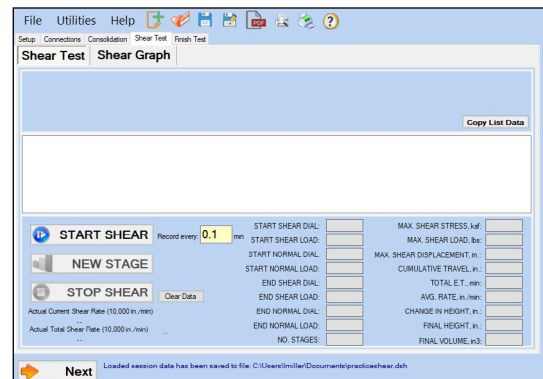
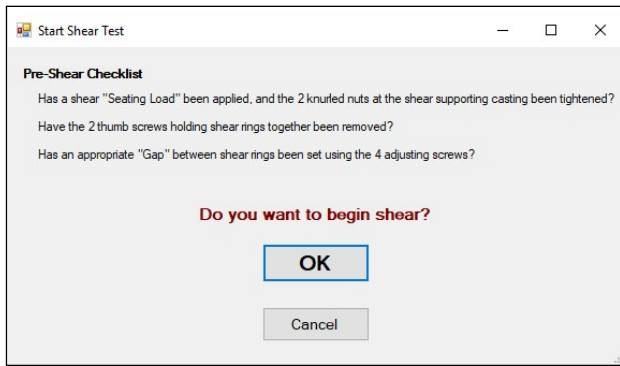

Figure 13: Shear Test Tab
Figure 14: Pre-Shear Checklist
9. Remove the alignment screws from the shear box and click **Start Shear** in the **Shear Test** Tab (Figure 13). A dialogue box (Figure 14) will appear with a “Pre-Shear Checklist.” Ensure all items on the checklist have been completed, select **OK** and begin the shear phase.